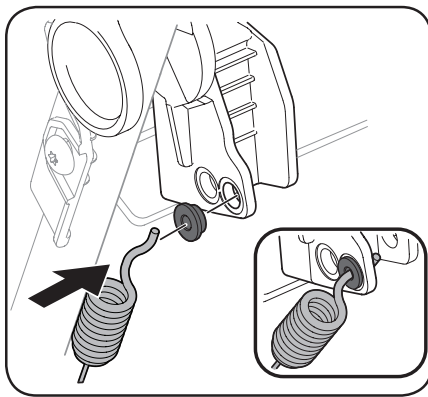

Figure 4-5
- Replace bushing in the lower hole and reattach the cable through the bushing and lower hole in the handle. See Figure 4-5.